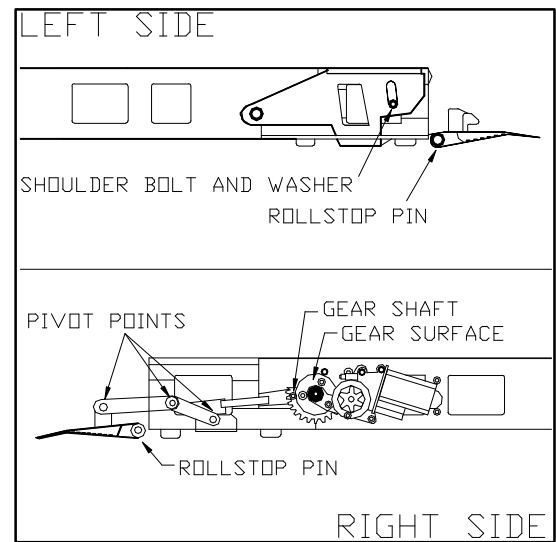

FIGURE 4-6: ROLLSTOP LUBRICATION POINTS
6. Refer to **Figure 4-6**. Lubricate the pivot points of the roll-stop mechanism on both sides of the platform using a light grease (Curtisol Red Grease No.88167). Wipe away excess grease.